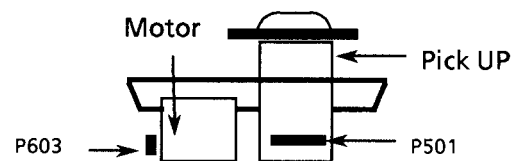

Fig 5. CD mechanism ass'y View
5. Rotate the Gear A shown in Fig.5 and move the CD mechanism ass'y to right side.
6. Remove the screw ⑥.